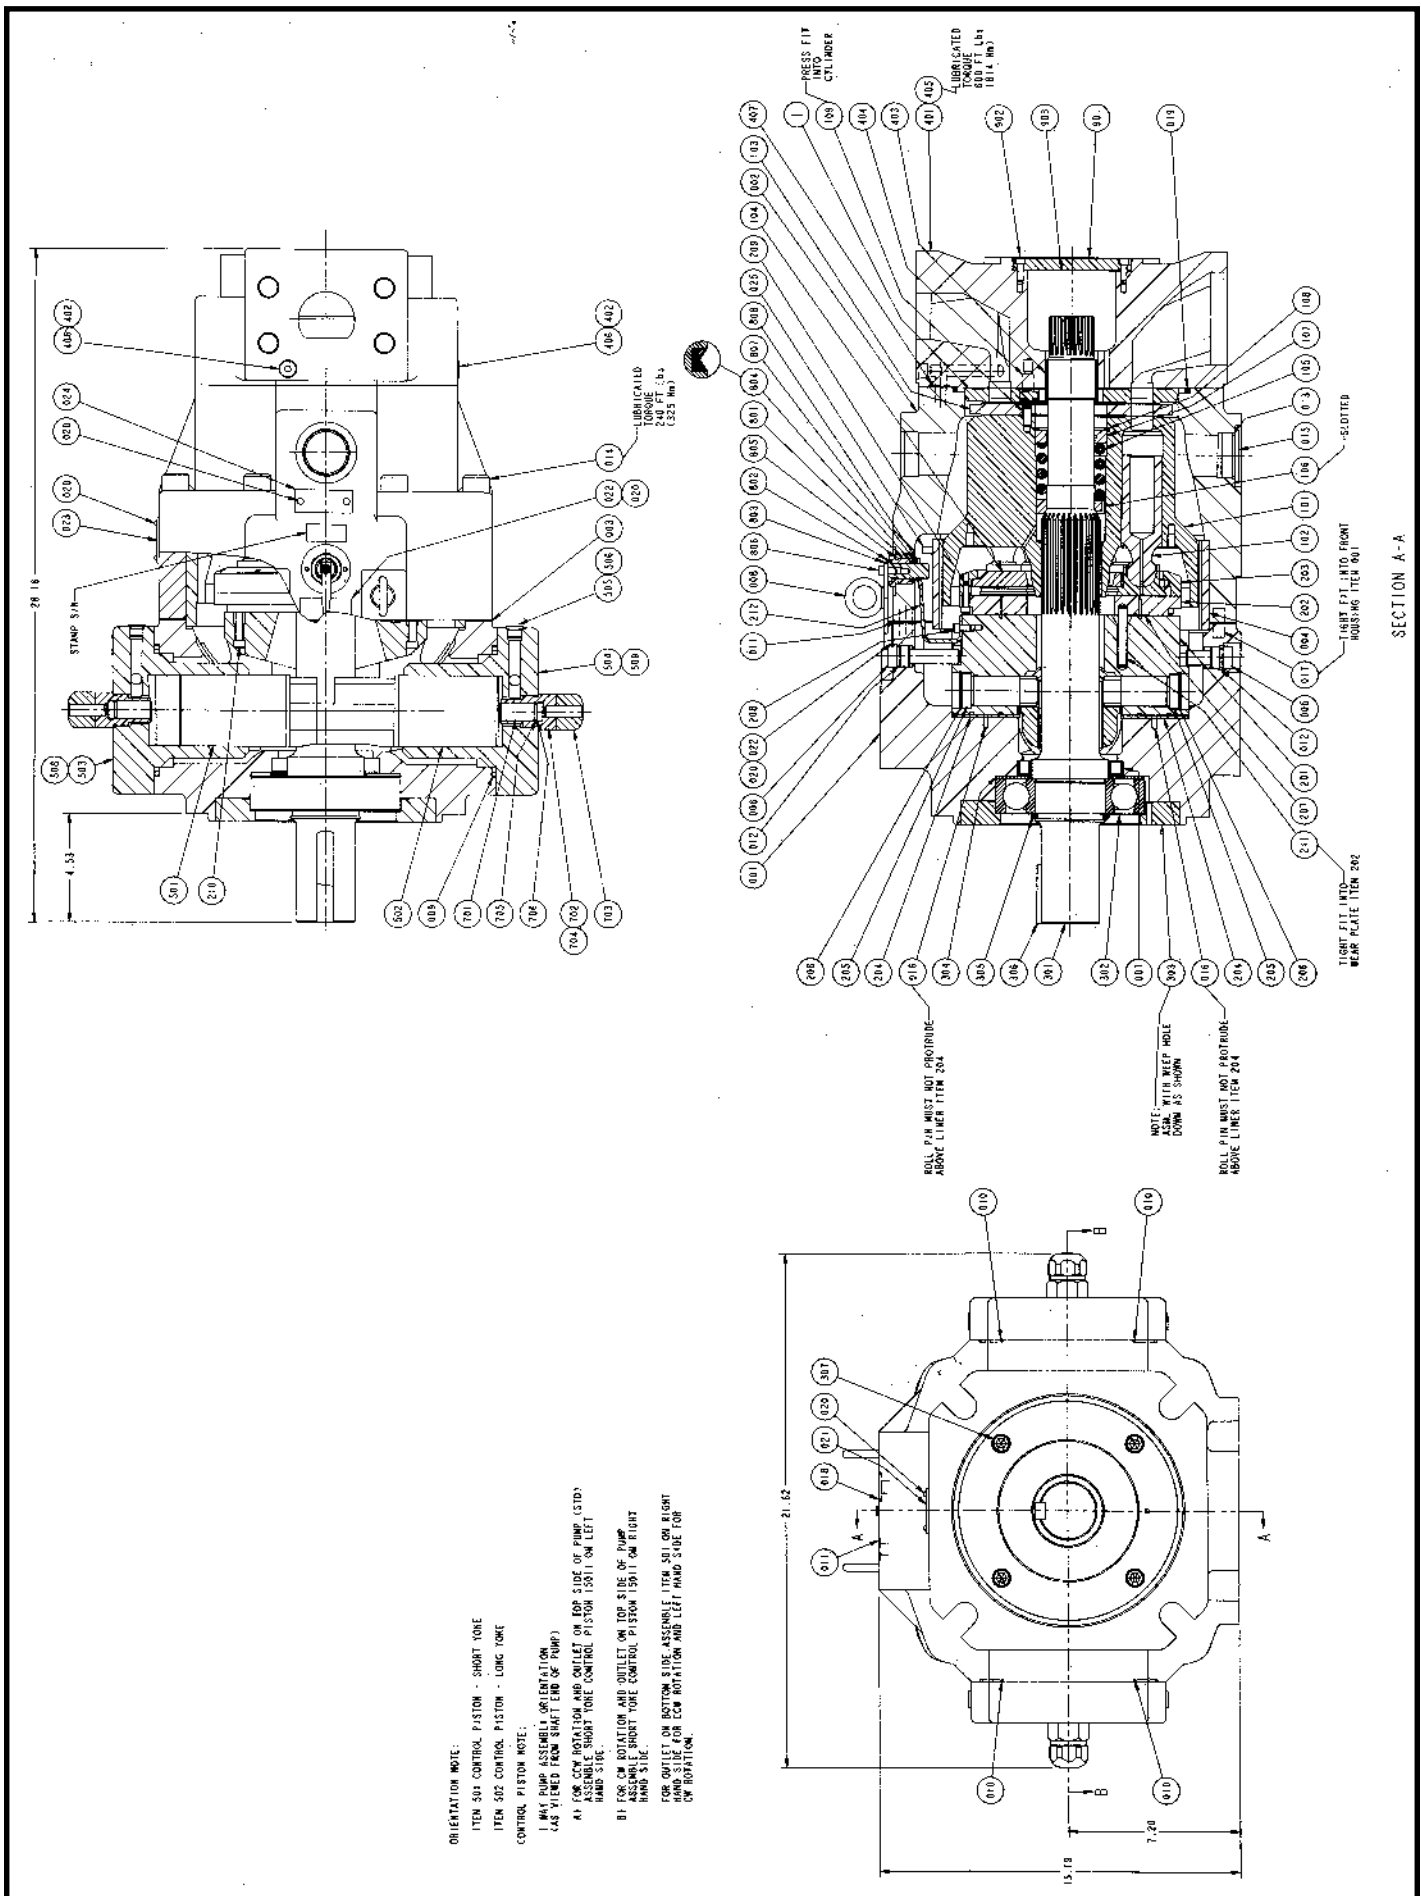

Figure 7. Cross Section Drawing (515888 sht. 1).
Refer to figures 7 and 8. It will be advantageous to tag similar parts (particularly screws, plugs and o'rings during disassembly) to be certain they don't become confused with similar parts and to assure they will be returned to original location. Do not remove (locator) roll pins unless they are deformed or otherwise in need of replacement.
Refer to figures 7 and 8. Depending upon what part or parts are to be inspected, it may not be necessary to completely take apart all assemblies or disconnect the driveshaft and front housing mounting from the drive shaft. If **only** the port plate (1) is to be inspected, it is possible to remove valve plate group (G) only. The driveshaft group (I) can be removed, without disassembling the rest of the pump, to access front driveshaft bearing (302) and/or shaft seal (007).
Refer to figures 7 and 8. The procedure for assembling the pump is basically the reverse order of disassembly. During assembly, install new gaskets, seals and o'rings. Apply a thin film of CLEAN grease or hydraulic fluid to sealing components to ease assembly. If a new rotating group is used, lubricate thoroughly with CLEAN hydraulic fluid. Apply fluid generously to all wear surfaces.